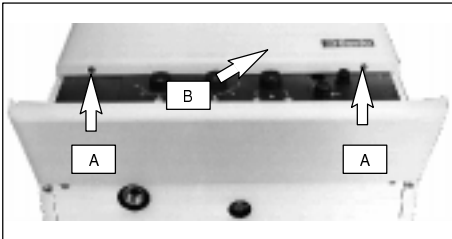

fig. 6.1
- 1 Open the front panel and undo the two screws "A". Take off the front panel "B" by moving it up so as to free it from the hooks above (fig. 6.1)